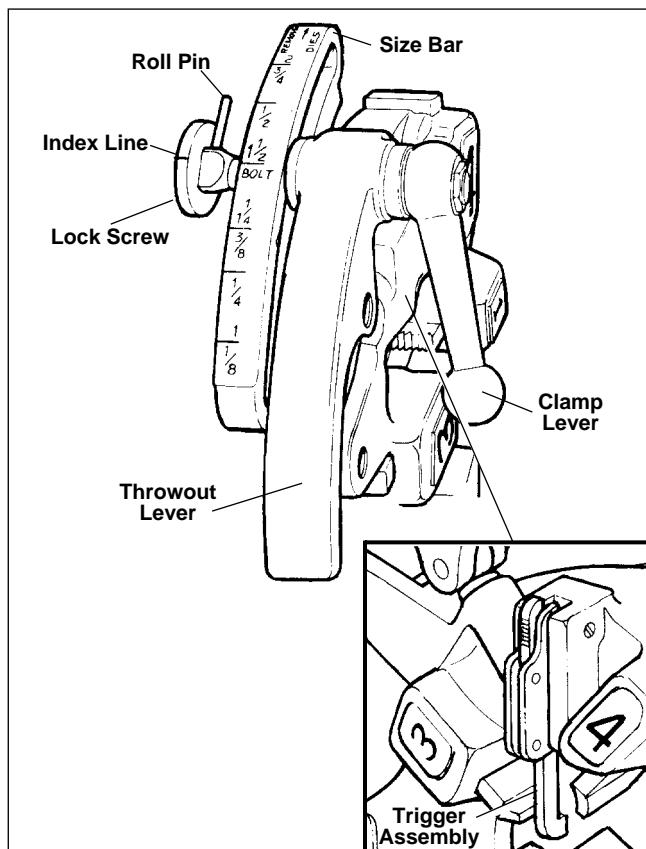

Figure 10 – Universal Self-Opening Die Head
- Self-Opening 815A Die Head (*Figure 10*) – When die head trigger contacts end of pipe, throwout lever is automatically opened.
The No. 815A Self-Opening Die Head (*Figure 10*) for right-hand threads requires four sets of dies to thread pipe ranging from $\frac{1}{8}''$ - $2''$. One set of dies is required for each of the following pipe size ranges: ($\frac{1}{8}''$), ($\frac{1}{4}''$ - $\frac{3}{8}''$), ($\frac{1}{2}''$ - $\frac{3}{4}''$), and ($1''$ - $2''$). Bolt threading requires a separate set of dies for each bolt size.